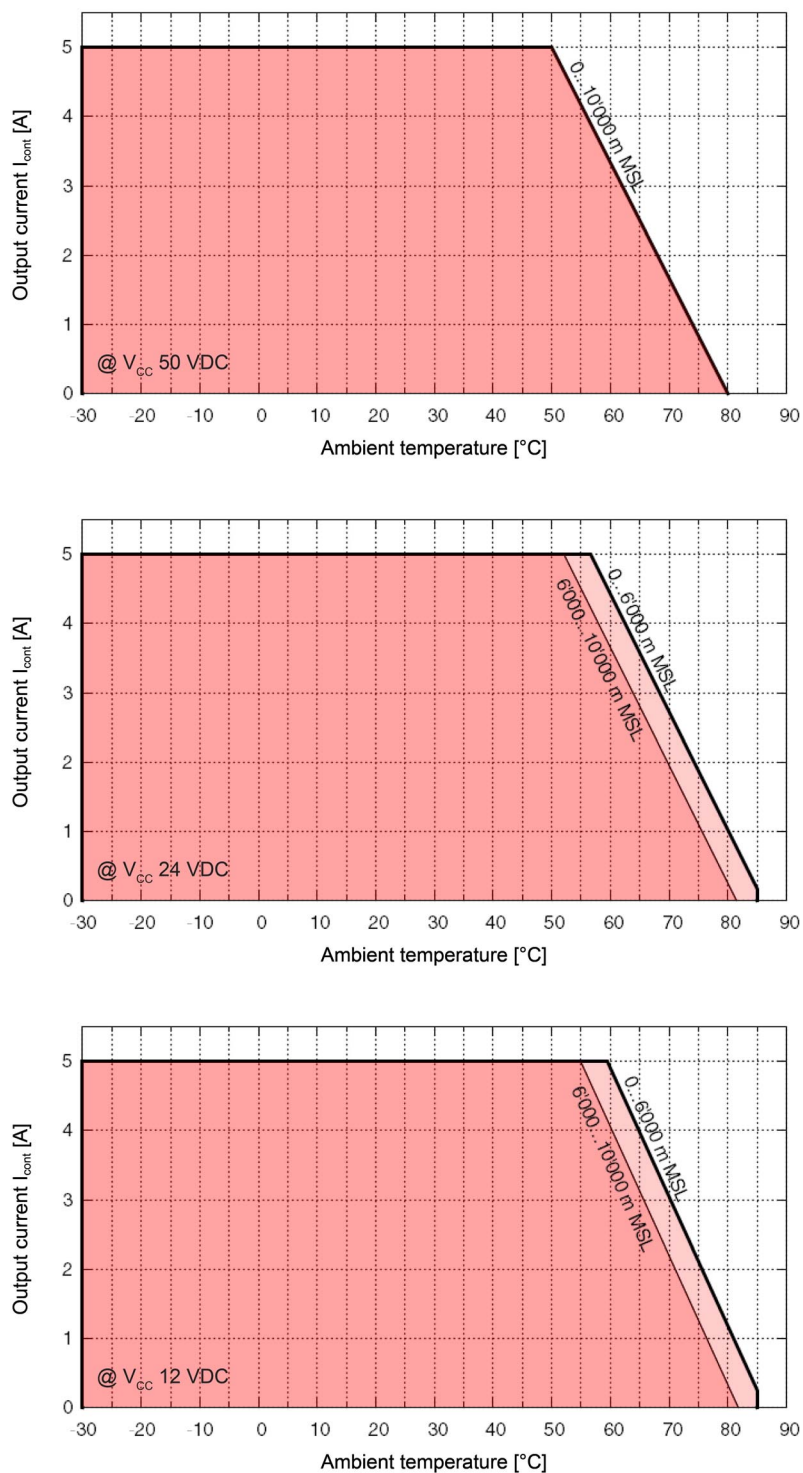

Figure 2-2 Derating of output current
Extended range ⁽¹⁾	+50...+80 °C; Derating: -0.167 A/°C (→Figure 2-2)
Additional derating with inserted extension card: Ambient temperature less 5 °C (→Figure 2-2) ⁽⁴⁾
- (1) Operation within the extended range is permitted. However, a respective derating (declination of output current I_{cont}) as to the stated values will apply.
- (2) Operating altitude in meters above Mean Sea Level, MSL.
- (3) Available with optional EPOS4 EtherCAT Card.
- (4) Derating further increases with an inserted extension card. For the actual value, consult →Figure 2-2 and shift the graph horizontally to the left by the specified value.